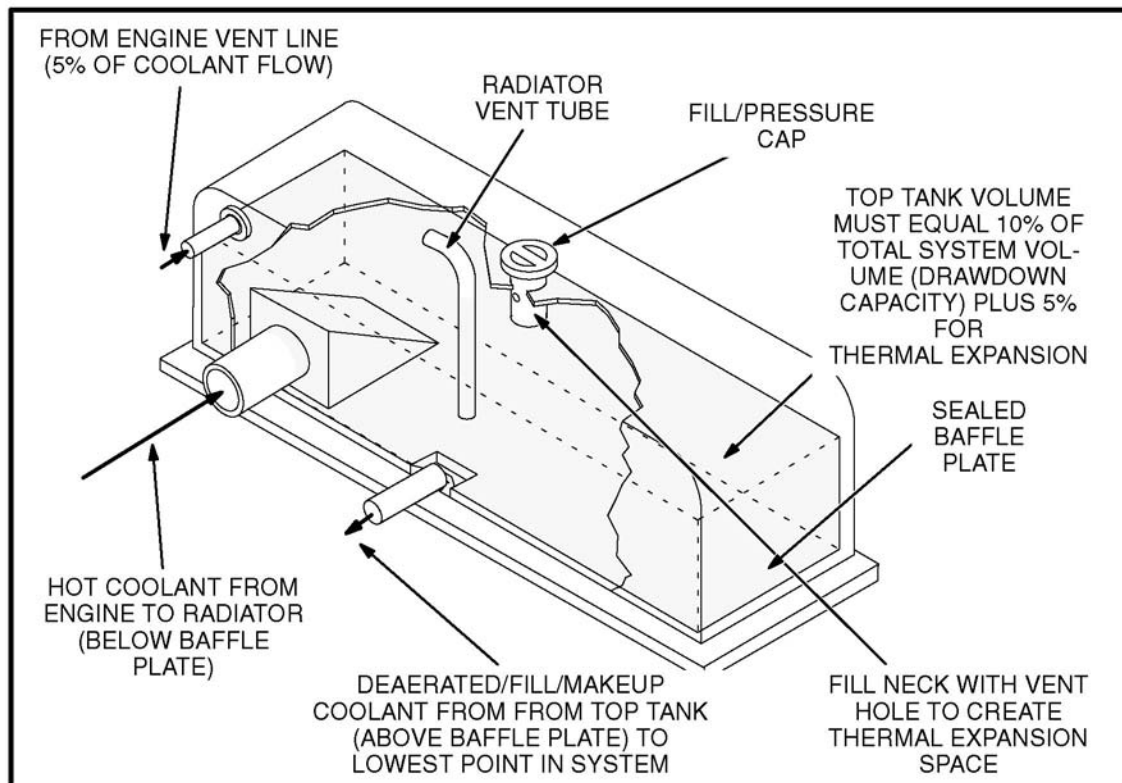

FIGURE 81. DEAERATION TYPE OF RADIATOR TOP TANK
- The cooling system must include deaeration and venting provisions to prevent buildup of entrained air in the engine due to turbulent coolant flow, and to allow proper filling of the engine cooling system. This means that in addition to the primary coolant inlet and outlet connections, there are likely to be at least one set of vent lines terminated at the “top” of the cooling system. Consult the engine manufacturer's recommendations for the specific engine used for detailed requirements²¹. See Figure 81 on page 162 for a schematic representation of the cooling and vent lines on a typical engine.
If the friction head is exceeded, but static head is not, a remote radiator system with auxiliary coolant pump can be used. See Figure 81 on page 162 and Remote Radiator With Auxiliary Coolant Pump, in this section.
- The capacity of the radiator top tank or auxiliary tank must be equivalent to at least 17 percent of the total volume of coolant in the system to provide a coolant “drawdown capacity” (11 percent) and space for thermal expansion (6 percent). Drawdown capacity is the volume of coolant that can be lost by slow, undetected leaks and the normal relieving of the pressure cap before air is drawn into the coolant pump. Space for thermal expansion is created by the fill neck when a cold system is being filled. See Figure 81 on page 162.